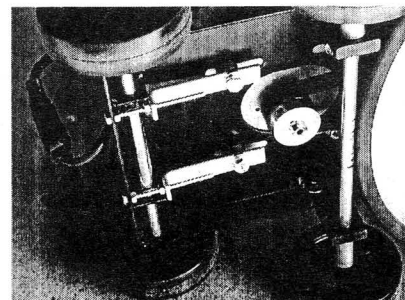

Figure 5
1. Loosen, but do not remove the 4 bolts, that hold the motor to the frame. (Figure 5)